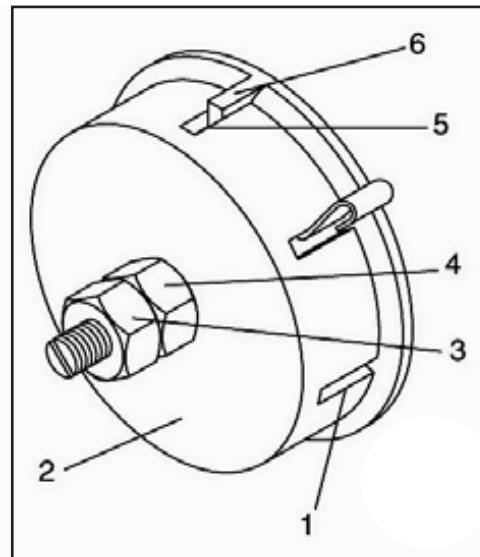

FIG. 10
- C. Carefully turn the spring cap (2) counterclockwise with the screwdriver, engaging the next notch. FIG. 10.
- D. Lower the spindle to the lowest position while holding the spring cap (2) in position.
(4) with a wrench. If too loose, repeat steps 2 through 4 to tighten. If too tight, reverse steps 3 and 4. DO NOT OVERTIGHTEN as this will restrict the spindle movement.
- F. Replace the outer nut (3) and tighten it against the inner nut (4) to prevent the inner nut from reversing.